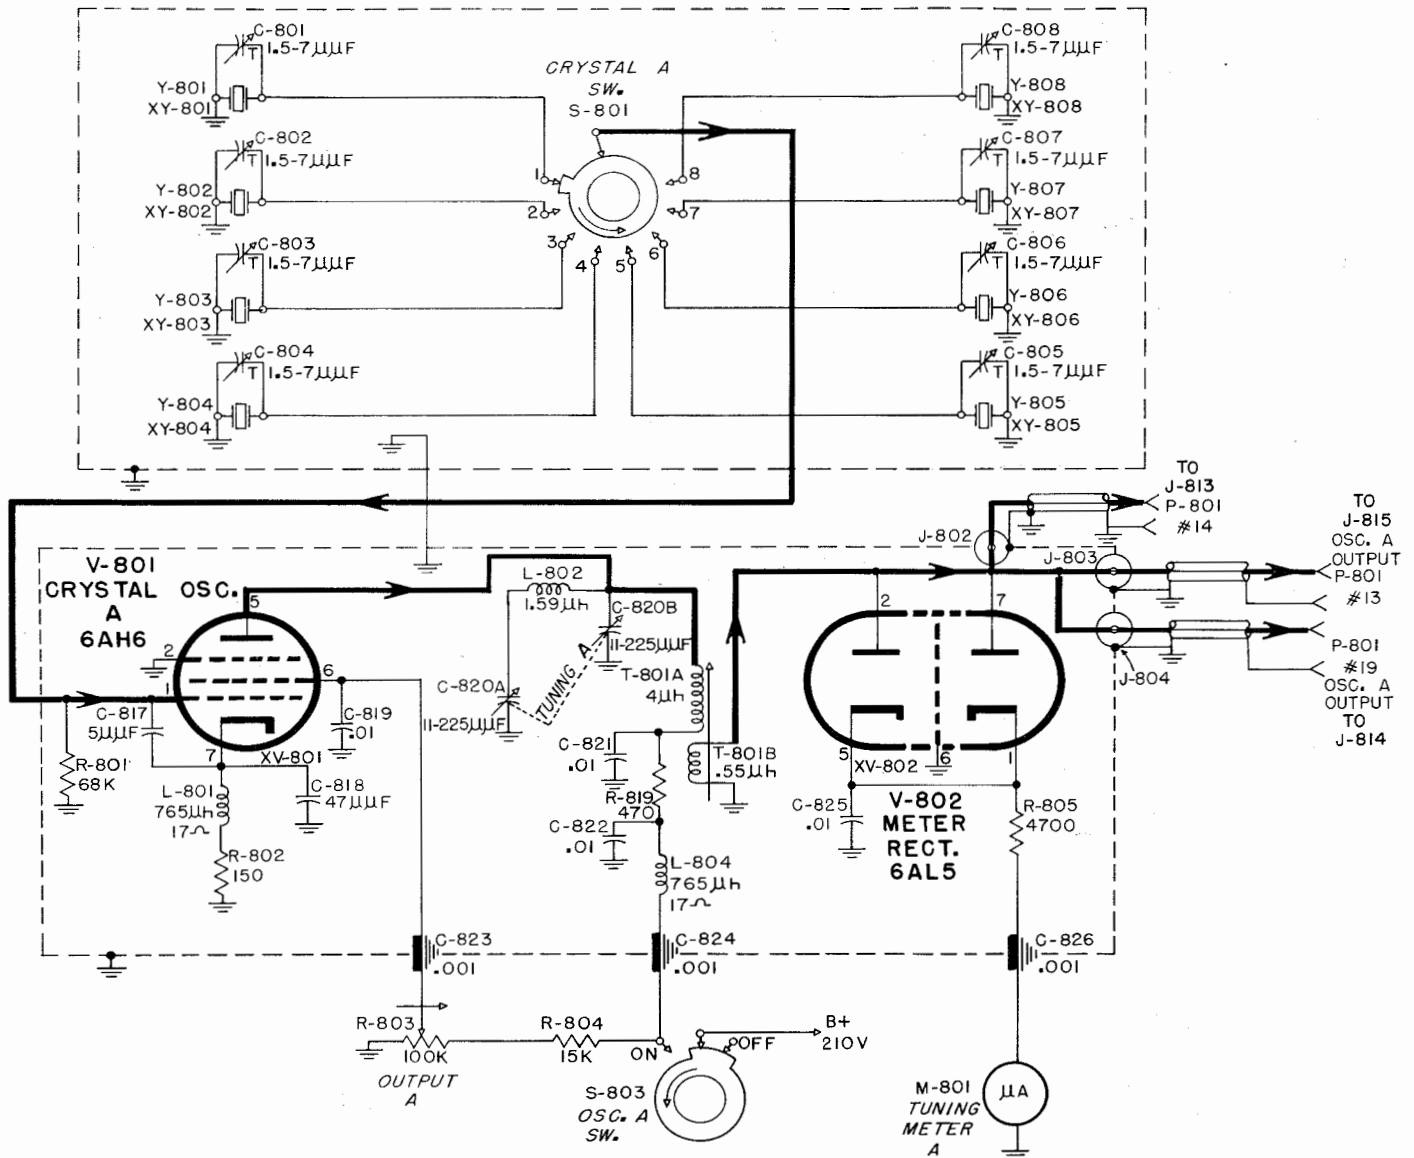

Figure 2-8. Crystal Oscillator Stages, Simplified Schematic Diagram
f. CRYSTAL OSCILLATOR (O-131/FRR-24). (See Figure 2-8).—The crystal oscillator utilizes 16 crystals in the frequency range of 3.75 to 15 mcs. to provide heterodyne voltages for crystal-controlled operation of one or more Amplifier-Converter units. Two separate oscillators are used to provide these output voltages. Each oscillator has three paralleled outputs with equal amplitude at an impedance of 23 ohms. Two front-panel mounted crystal switches are used to select the crystals necessary to produce the heterodyne voltage required for reception of the chosen frequency channels. The above crystals are employed with a multiplication factor of 1, 2 or 3 times the crystal frequency to cover the tuning range of the Amplifier-Converter units. Two tuning meters are provided to indicate maximum output of the oscillators. Individual switches S-803 and S-804 permit simultaneous operation of the oscillators.